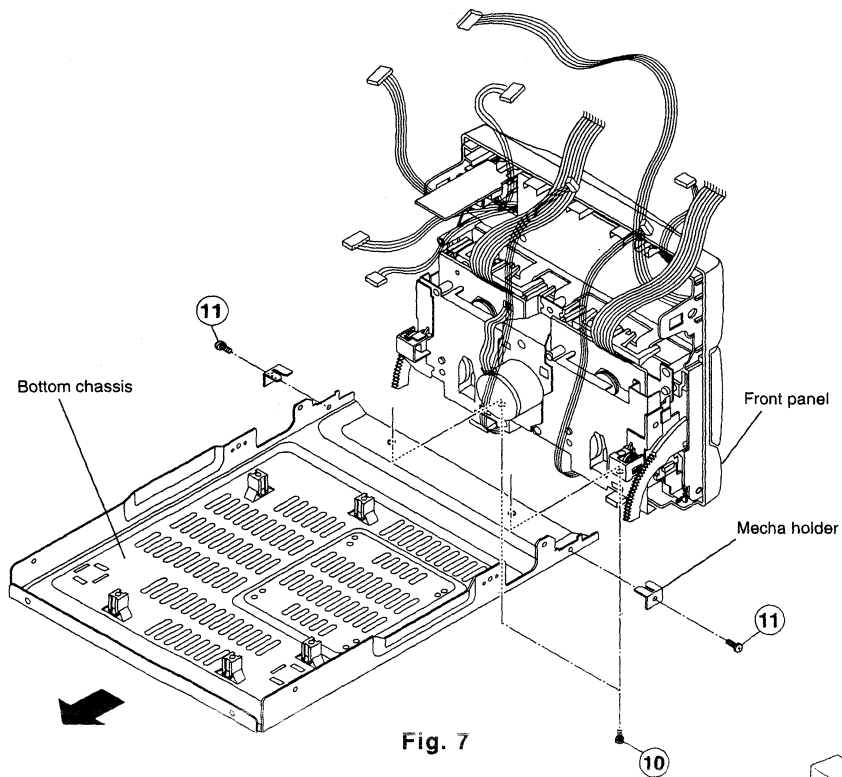

Fig. 7
(1) Remove 5 screws ⑮ from Main P.W.B.
(2) Remove 4 screws ⑯ from the Transformer.
7. **Removal of Bottom Chassis (Fig. 7)**